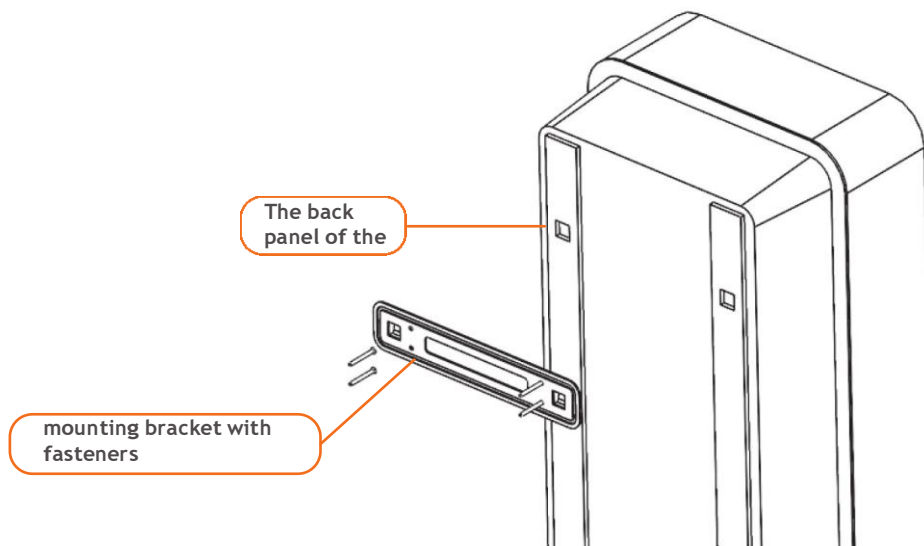
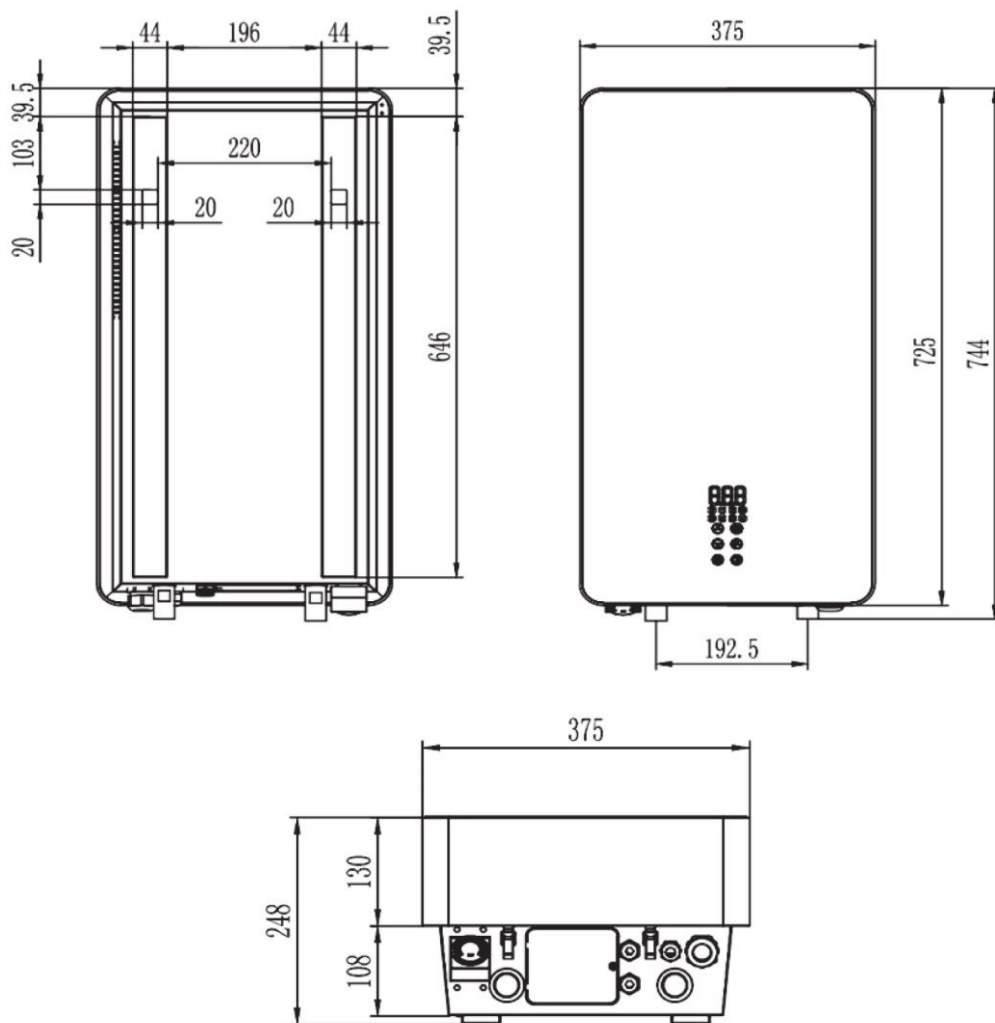

Figure 5 - The order of fastening the product.
Figure 6 - Basic dimensions.
5.1.7 Fastening of the product is carried out according to Figure 5. The main dimensions are shown in Figure 6.